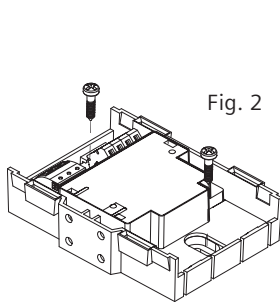

Fig. 2
2. Mount the base plate (Fig. 2) on a wall or recess-mounted socket using 2 ... 4 screws with max. diameter 3 mm.
- Installation directly in a switching cabinet or a control unit: mount the module on an even surface (Fig. 2).
1. Position module on an even surface (Fig. 2).